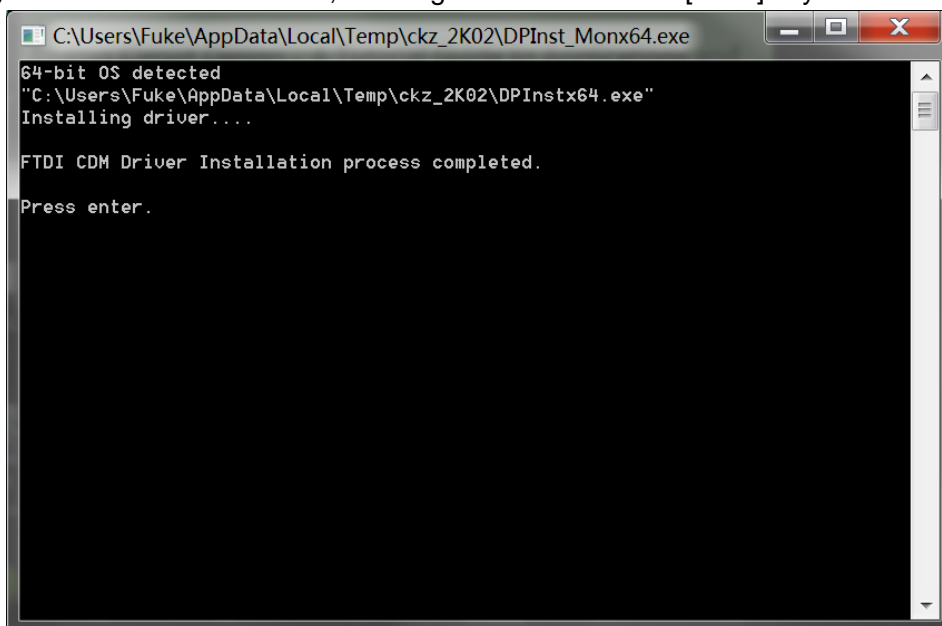

Fig9. USB driver installation process completed
c) If the installation is over, then Fig.9 will occur. Press [enter] key to finish it.